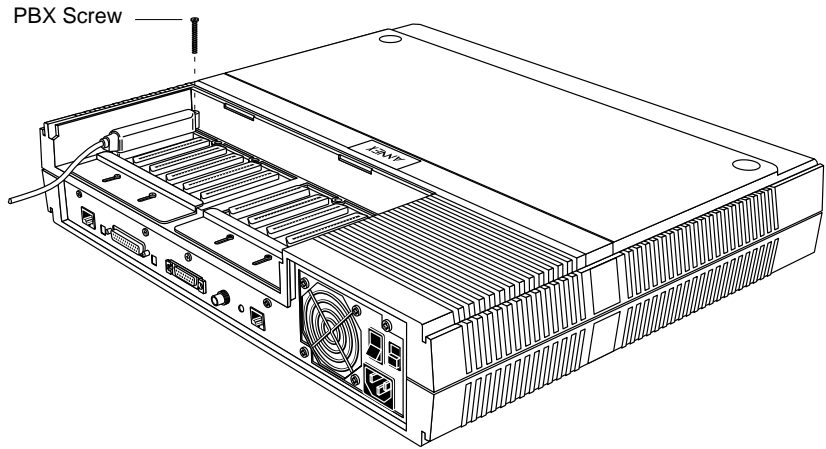

Figure 2-10. Securing the PBX Cable
- 4 Tighten the screw on the PBX end of the cable (see Figure 2-10).